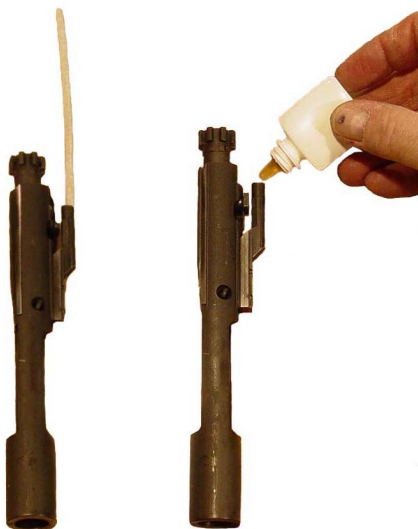

Figure 3-66. Apply CLP to Carrier Key
- (1) Dry with pipe cleaner and place one drop of CLP. Refer to Figure 3-66.